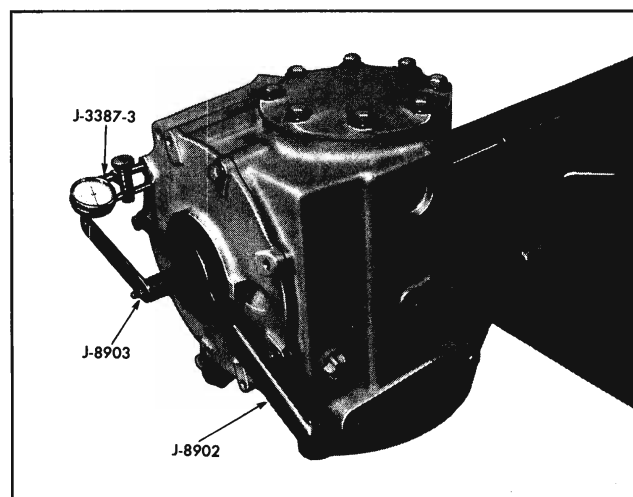

Fig. 4-62 Tools in Position for Adjusting Backlash
23. Install tool J-8903 inside of differential shaft and set up dial indicator J-8001 on support J-3387-3 as illustrated (Fig. 4-62). Dial indicator should rest squarely on line scribed on handle of J-8903.